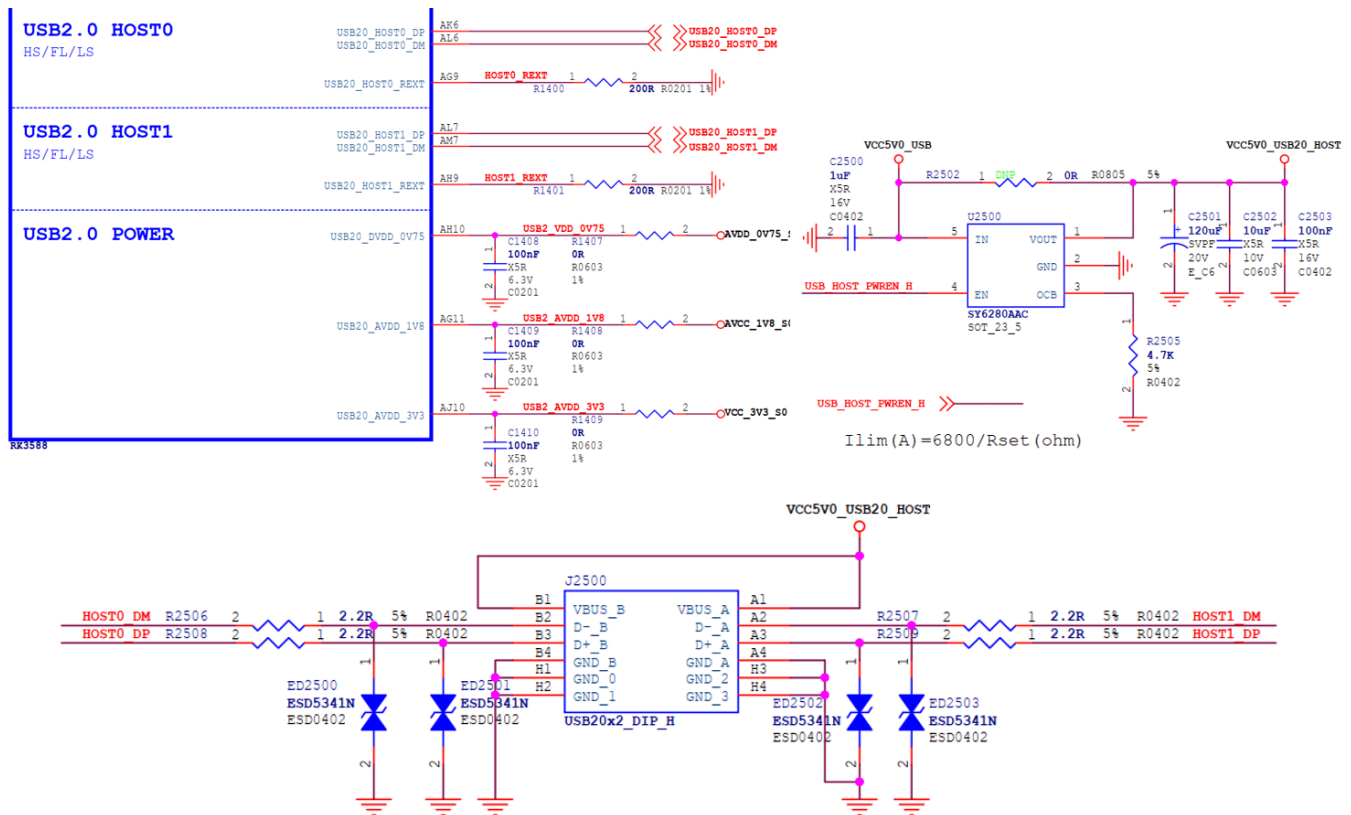

Figure 26 RK3588 Type-A USB 2.0 HOST Circuit
1. USB 2.0 HOST0/1 share the VBUS power supply (VCC5V0_USB20_HOST), controlled by GPIO to regulate the output of the voltage regulator chip SY6280AAC for VBUS. The maximum output current is determined by the resistor connected to the OCB pin of the voltage regulator chip, with the maximum current $I_{lim}(A) = 6800/R_{set}(ohm)$, as shown in Figure 26 below, the VBUS output current limit is 1.45A;